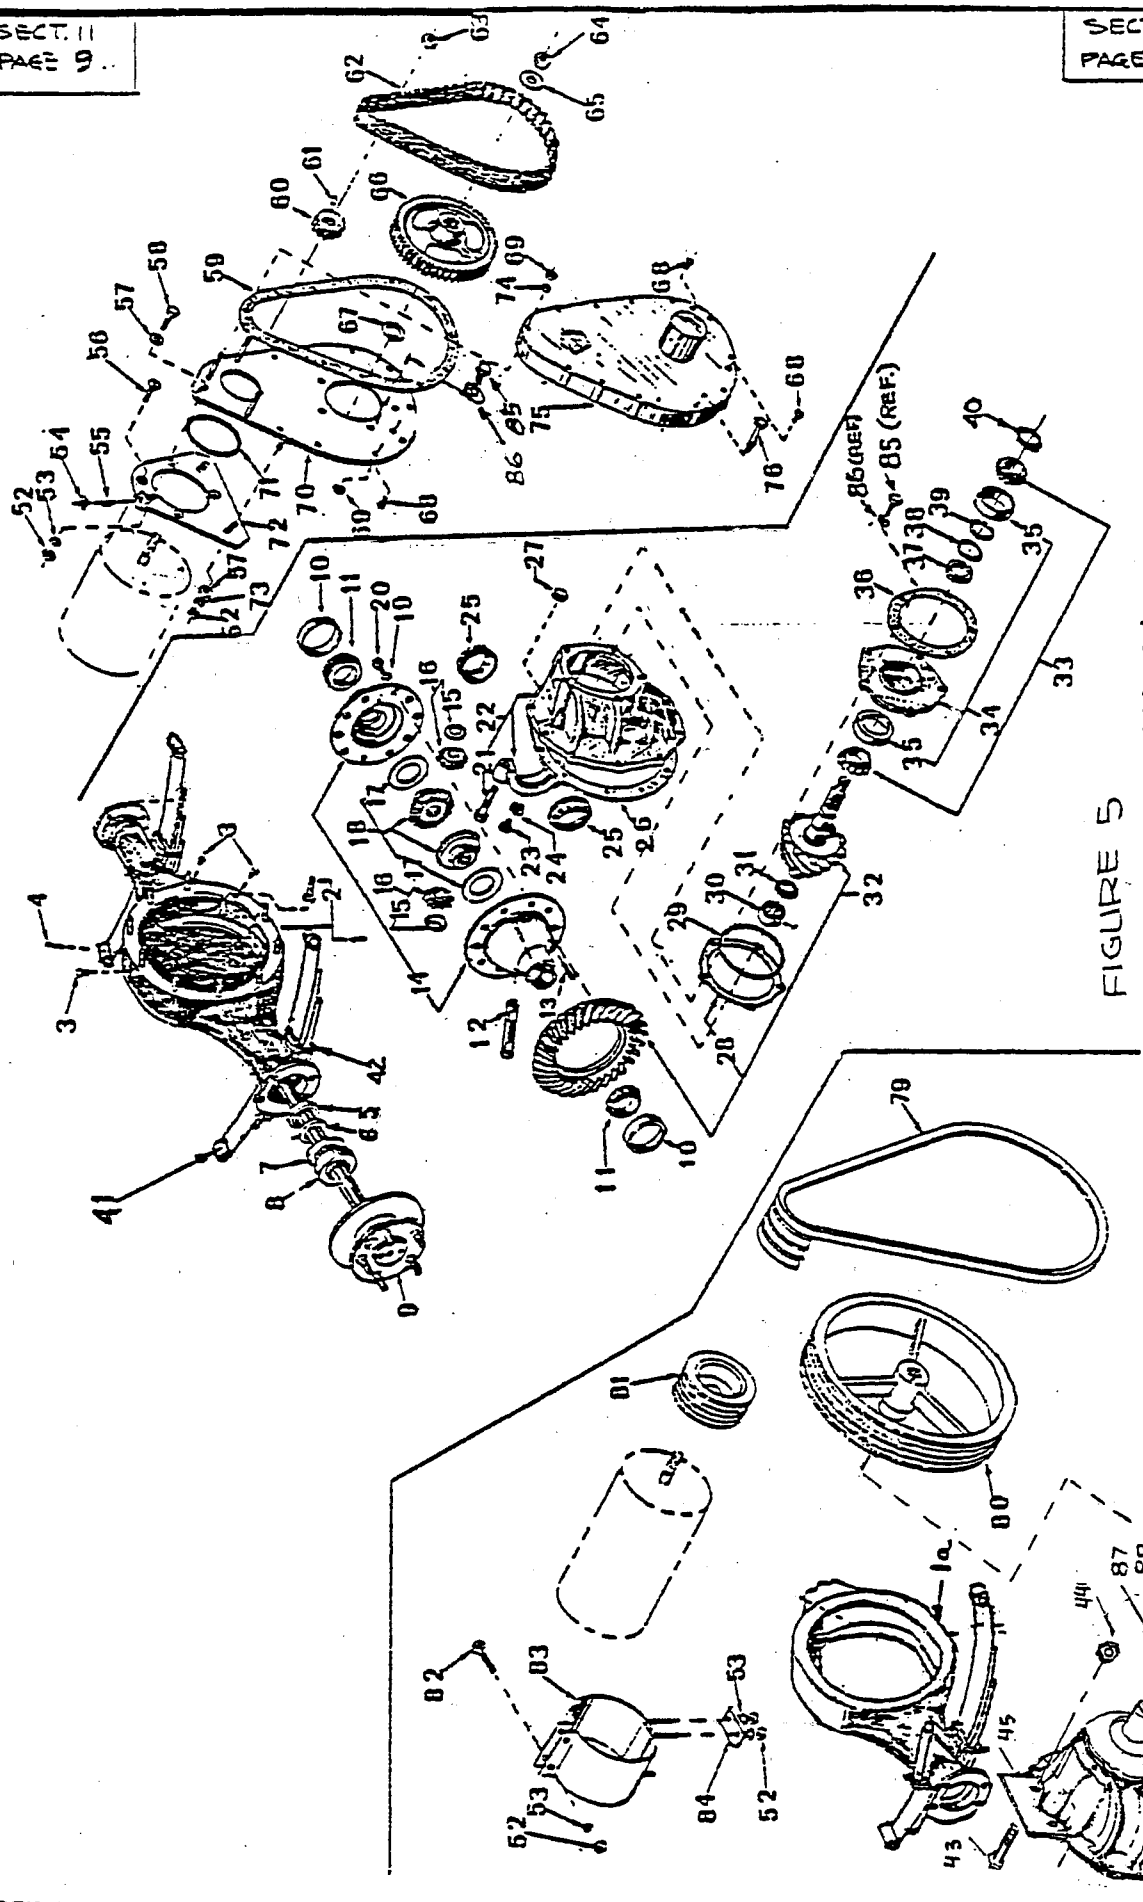

FIGURE 5
5. Shim Selection: Manufacturing tolerances in the pinion bore dimensions and in the best operating position of the gears make an adjustment shim necessary. This shim is place between the pinion retainer and the carrier, Figure 5. An increase in the thickness of the shim moves the pinion AWAY from the drive gear. manufacturing objectives are to make axles requiring a .0015" shim and if a new assembly is being built, a .0015" shim should be used for a tentative build-up. Shims are available in .010" to .021" thicknesses in steps of .001". Pinions and drive gears are marked, when matched with the same number. Following the number on the pinion is a minus (-) or plus (+) followed by a number. If the pinion is marked "-1" it indicates that a shim .001" thinner than a standard shim for this carrier is required. A minus number means the pinion should be moved closer to the drive gear and a thinner shim is required. A plus number means the pinion should be moved farther from the drive gear and a thicker shim is required. A pinion marked zero (0) is a standard pinion.
11. Install axles, brake assemblies, bearing retainers, and gaskets. Note: Axles are equipped with special sealed bearings. Should there be evidence of seal leakage, it is recommended that a new bearing and new bearing retainer ring be pressed onto the axle shaft, and a new gasket be installed between the bearing and bearing seat in the housing. Refer to figure 5.
SECTION 11 FIGURE 5